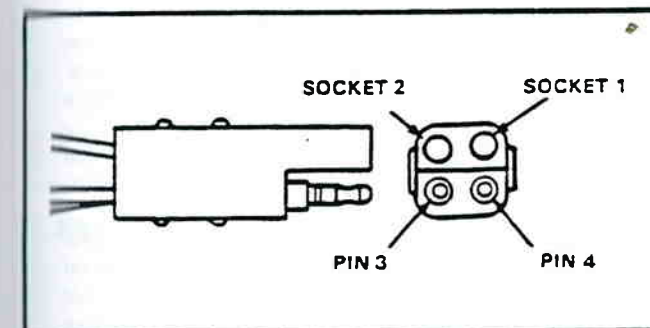

Figure 9-18. Solenoid Assembly Harness Connector.
2. Simultaneously, apply positive (+) power to pins 3 and 4, and negative (-) power to terminals or sockets 1 and 2 (figure 9-18). With power applied note that 60 psi (414 kPa) is registered on the gauge installed in the delivery port.
5. Refer to figure 9-18) connect an ohmmeter to: